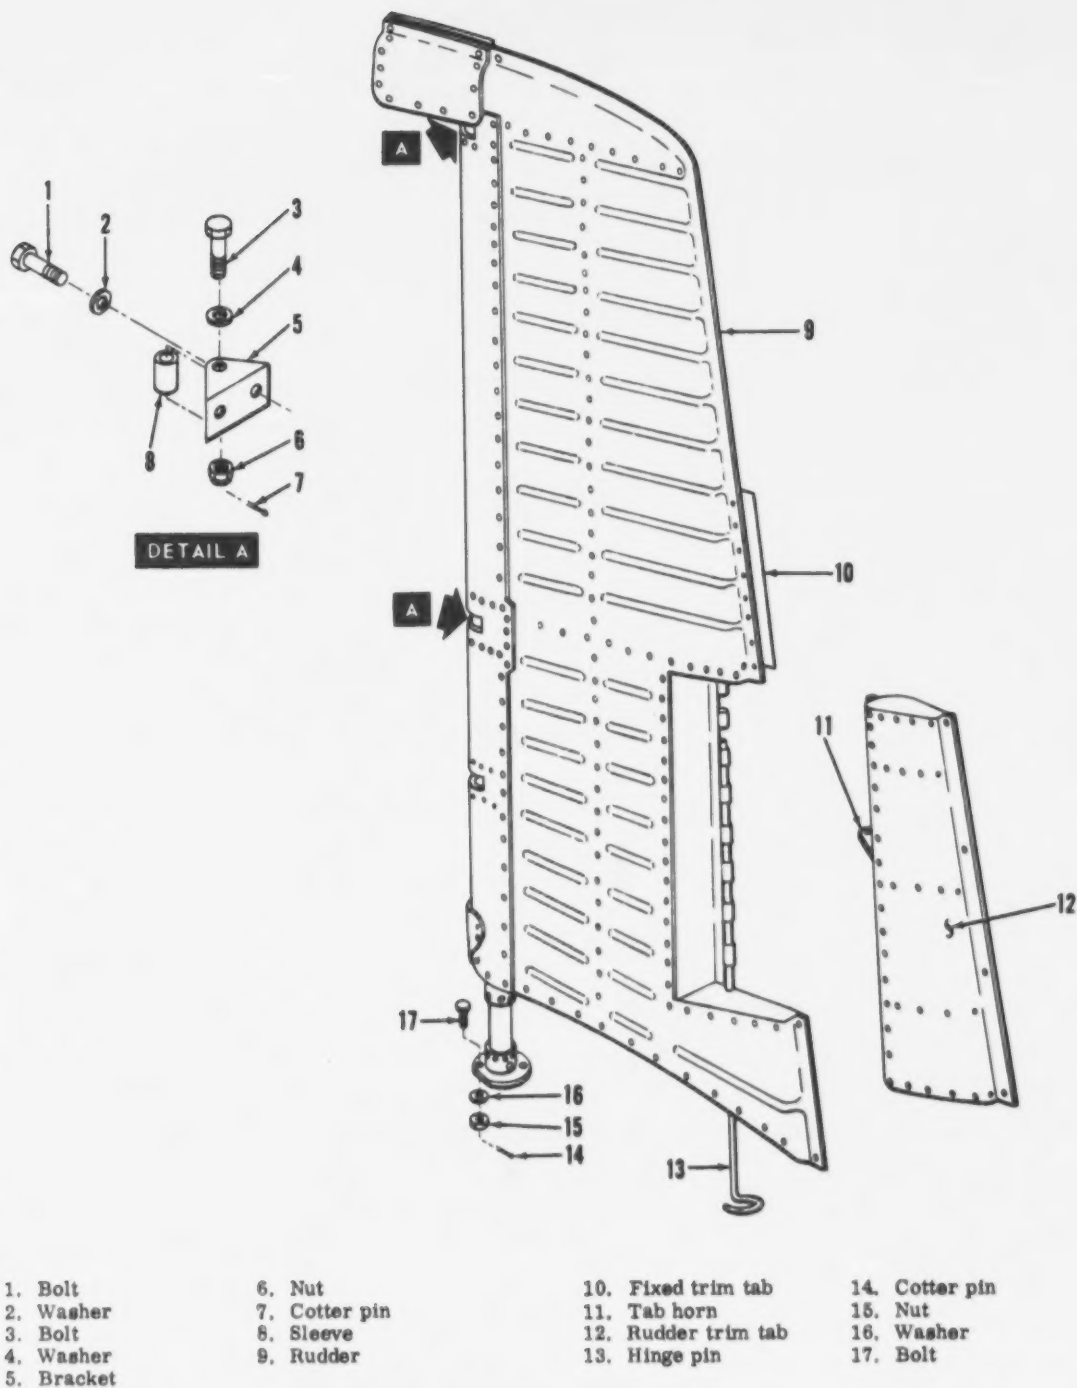

Figure 9-4. Rudder installation
9-20. The rudder (9, figure 9-4) is constructed of magnesium alloy. The main ribs and balance horn are constructed of aluminum alloy. The skin of the spar is beaded chordwise for reinforcement. The rudder is attached to the trailing edge of the vertical stabilizer. The rudder is chemically treated, externally and internally, to resist corrosion.
a. Removal. (1) Remove tail cone. (Refer to paragraph 4-228.)
(2) Remove cotter pins (14, figure 9-4), bolts (17), washers (16), and nuts (15) securing rudder torque tube fitting on rudder bellcrank.
(3) Remove cotter pin, bolt, washers, and nut securing control rod of rudder trim tab to rudder trim tab actuator. Remove end of control rod and bushing from rudder trim tab actuator.
(4) Remove lock wire from bolts (1).
(5) Support rudder (9) and remove bolts (1) and washers (2) securing brackets (5) to rudder. Remove rudder.
(6) Remove cotter pins (7), bolts (3), washers (4), and nuts (6) securing brackets (5) on hinge of vertical stabilizer and remove brackets and sleeves (8).
(7) Position brackets (5) on rudder (9) and install bolts (1) and washers (2).
c. Inspection. (1) Inspect rudder for cracks, dents, loose or missing rivets, and corrosion.
(2) Inspect brackets for bends, cracks, elongated pivot holes, and corrosion.
d. Installation. (1) Remove bolts (1, figure 9-4) and washers (2) securing brackets (5) on rudder (9) and remove brackets.
(2) Position brackets (5) and sleeves (8) on hinge of vertical stabilizer and install bolts (3), washers (4), nuts (6), and cotter pins (7).
(3) Position rudder (9) on rudder bellcrank and brackets (5) and install bolts (1) and washers (2) in brackets. Secure bolts with lock wire.
(4) Install bolts (17), washers (16), nuts (15), and cotter pins (14) to secure rudder torque tube fitting on rudder bellcrank.
(5) Position bushing in end of rudder trim tab actuator, position aft end of control rod on bushing, and install bolt, washer, nut, and cotter pin.
(6) Check alignment of rudder (9) and rudder trim tab (12) in accordance with paragraphs 9-99 and 9-111.
(7) Install tail cone. (Refer to paragraph 4-228.)
9-22. The rudder trim tab (12, figure 9-4) is attached to the trailing edge of the rudder by a piano-type hinge. The rudder trim tab is connected to the rudder trim tab actuator by a control rod.
a. Removal. (1) Remove cotter pin, bolt, washer, and nut securing end of control rod to tab horn (11, figure 9-4).
(2) Remove hinge pin (13) and remove rudder trim tab (12) from rudder (9).
d. Installation. (1) Position rudder trim tab (11, figure 9-4) on trailing edge of rudder (9) and install hinge pin (13).
(2) Position end of control rod on tab horn (11) and secure with bolt, washer, nut, and cotter pin.
(1) Place a smooth wooden block on each side of the rudder fixed trim tab and secure with C clamps.
(2) Bend rudder fixed trim tab to the right to adjust for aircraft yaw to the right or to the left for yaw to the left.
(3) Test fly aircraft and repeat adjustment as necessary for hands-off flight with rudder trim tab (12, figure 9-4) in neutral.